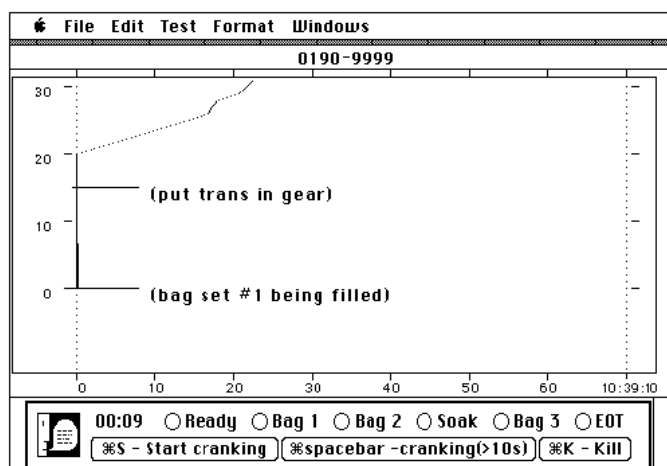

Figure 4
- 305 Simultaneously start the test vehicle's engine, according to the manufacturer's recommended starting procedures, and press <Command S>. If the engine starts and continues to run, go to Step 307. If the vehicle does not start after 10 seconds of cranking, the cranking shall cease and the reason for failure to start shall be determined. Select the "Hold cranking > 10 sec." button at the bottom of the screen by pressing <Command-Space Bar>. See Figure 4